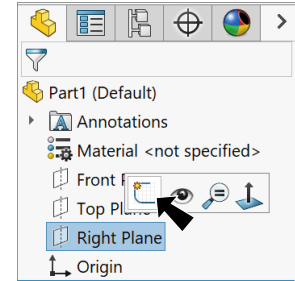

Fig. 1
- Step 2. Click **Right Plane**  in the Feature Manager and click **Sketch**  on the context toolbar, **Fig. 1**.
- Step 3. Click **Circle**  (S) on the Sketch toolbar.